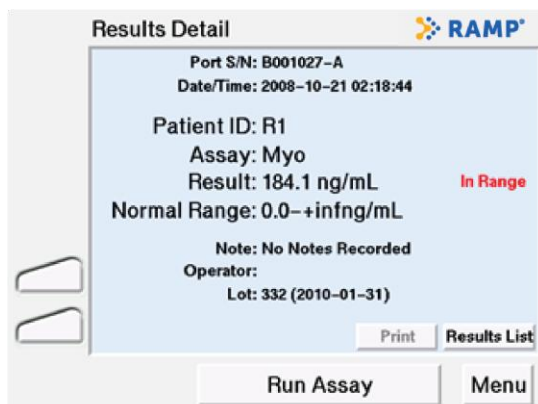

Figure 16 Results Detail Screen
- 3 To view the details of a particular result, select the result and then touch **View** (Figure 15). The **Results Detail** screen is displayed (Figure 16).